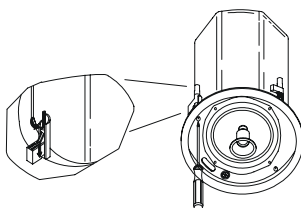

Figure 9
Step 6 – Connect a Secondary Support Line to Seismic Tab. A tab is provided on the back of each speaker for connection to a independent secondary support point. (Figure 9) Some construction codes require using this secondary support point, which requires connecting a support line to a separate secure support point. Consult construction codes in your region.